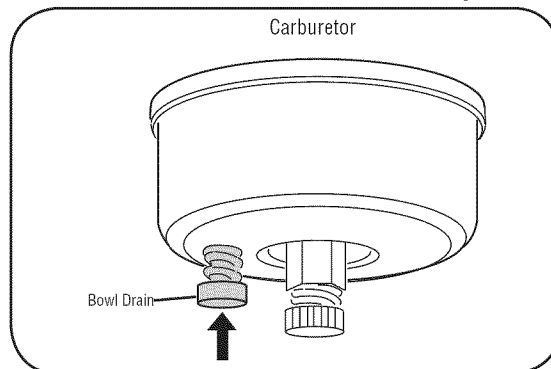

Figure 17
3. Drain carburetor by pressing upward on bowl drain, located below the carburetor cover. See Figure 17.